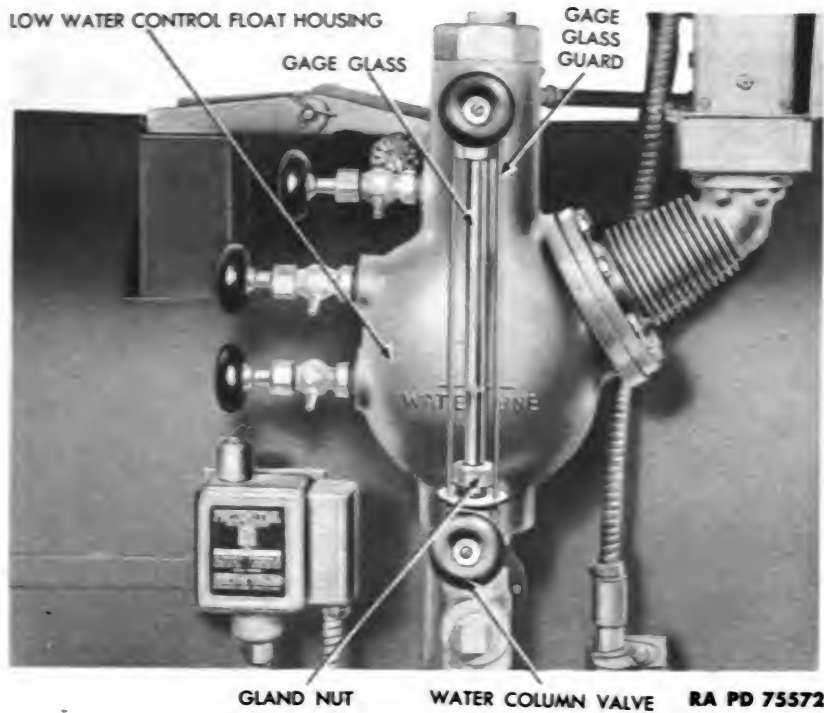

Figure 116 — Steam Generating Plant Water Level Gage
- (3) **REMOVAL OF WATER LEVEL GAGE** (fig. 116).
- (4) **INSTALLATION OF WATER LEVEL GAGE** (fig. 116).